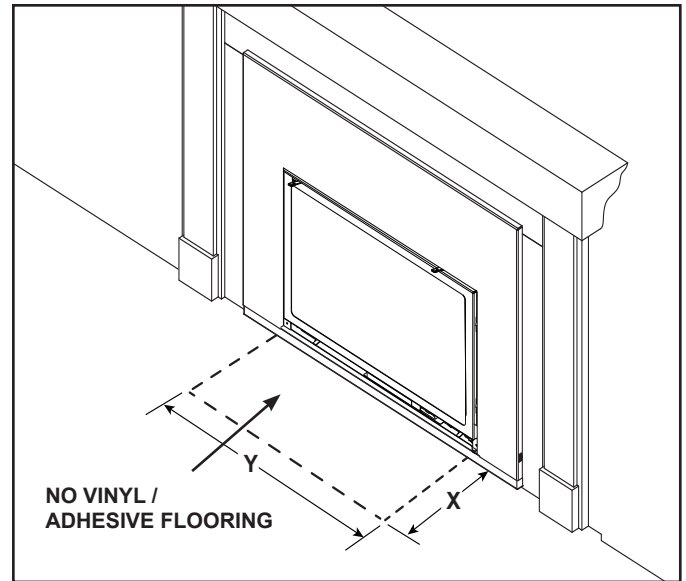

Figure 8.5 Hearth - Combustible Material Exception
- Combustible flooring may be located in front of the appliance. Exception - no vinyl / adhesive flooring. See Figure 8.5.